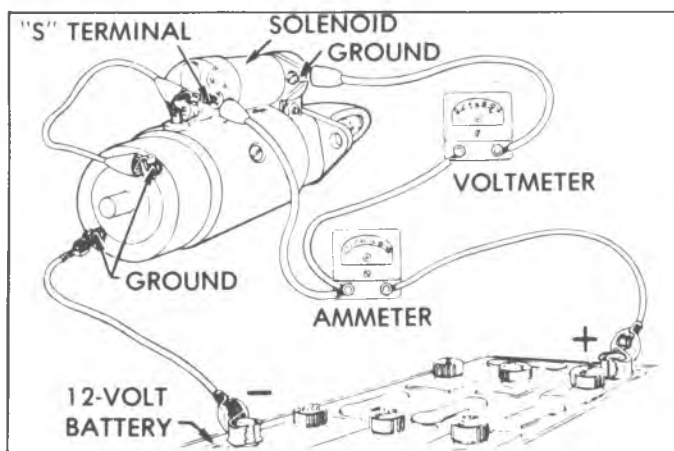

Fig. 16s—Amperage Test of Solenoid
- Remove screw from solenoid motor terminal and bend field leads slightly until clear of terminal. Then ground solenoid motor terminal with a heavy jumper wire (Fig. 16s).